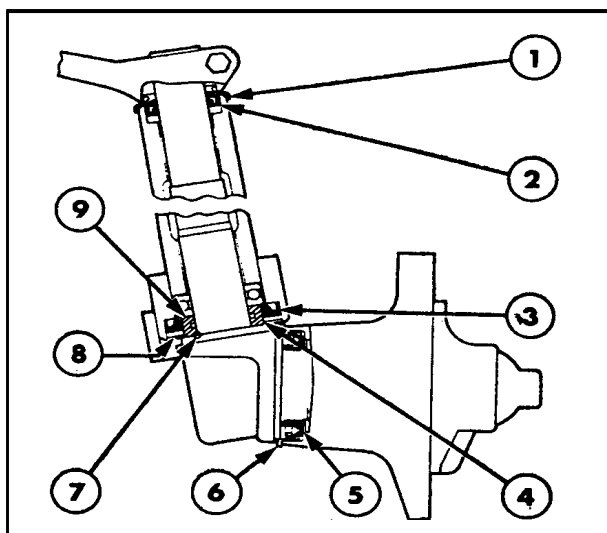

Figure 9
- (a) The steering spindle has been provided with upper and lower grease seals. An additional inner seal and thrust spacer are also provided on each spindle. Figure 9.